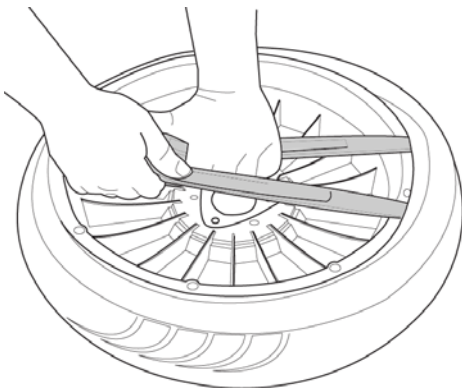

Figure 4-9: Insert Second Tire Iron
8. Insert a second tire iron under tire bead about 6" away from first tire iron and pry that portion of tire over rim (Figure 4-9).